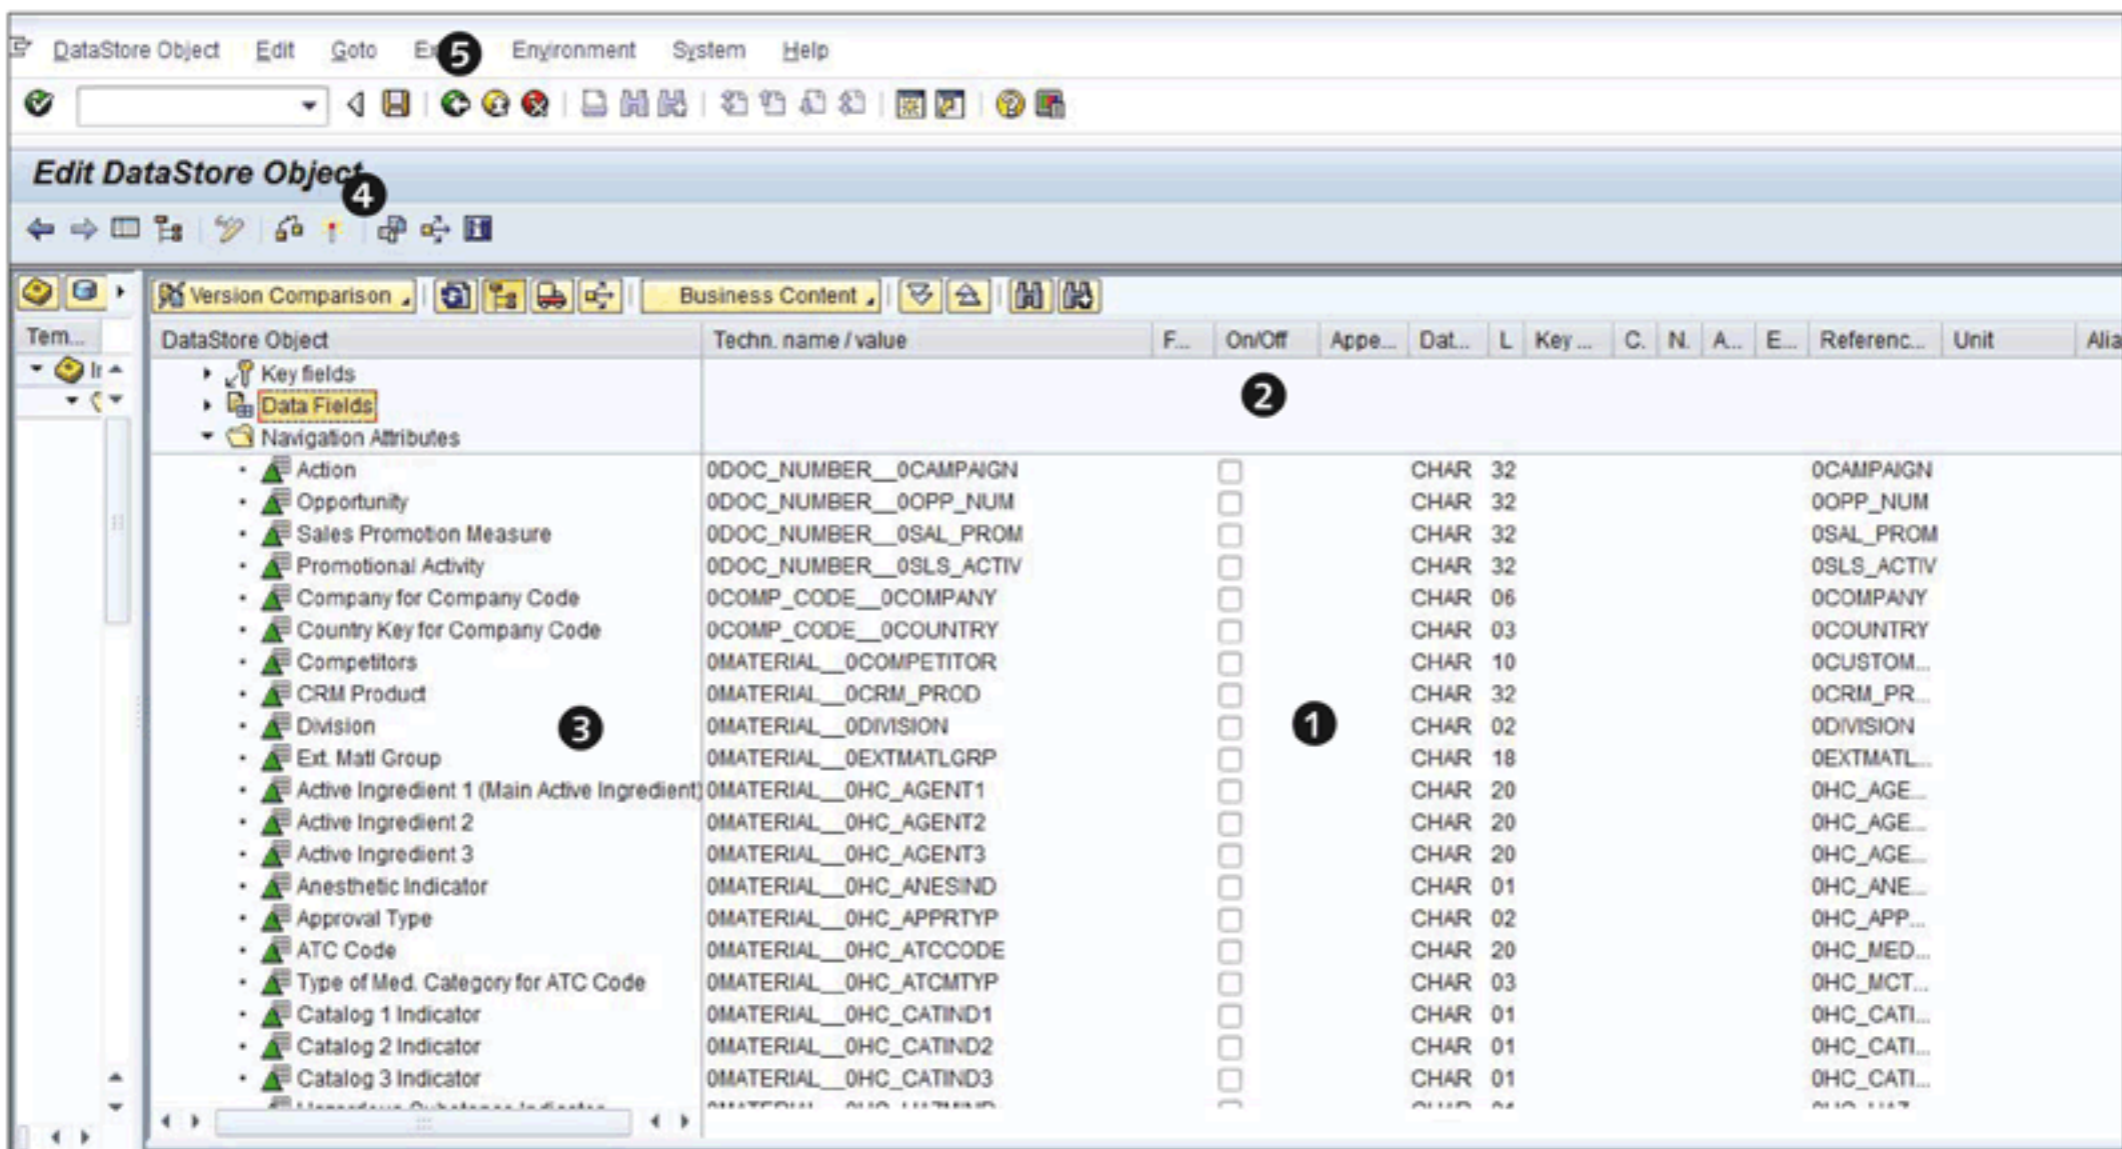
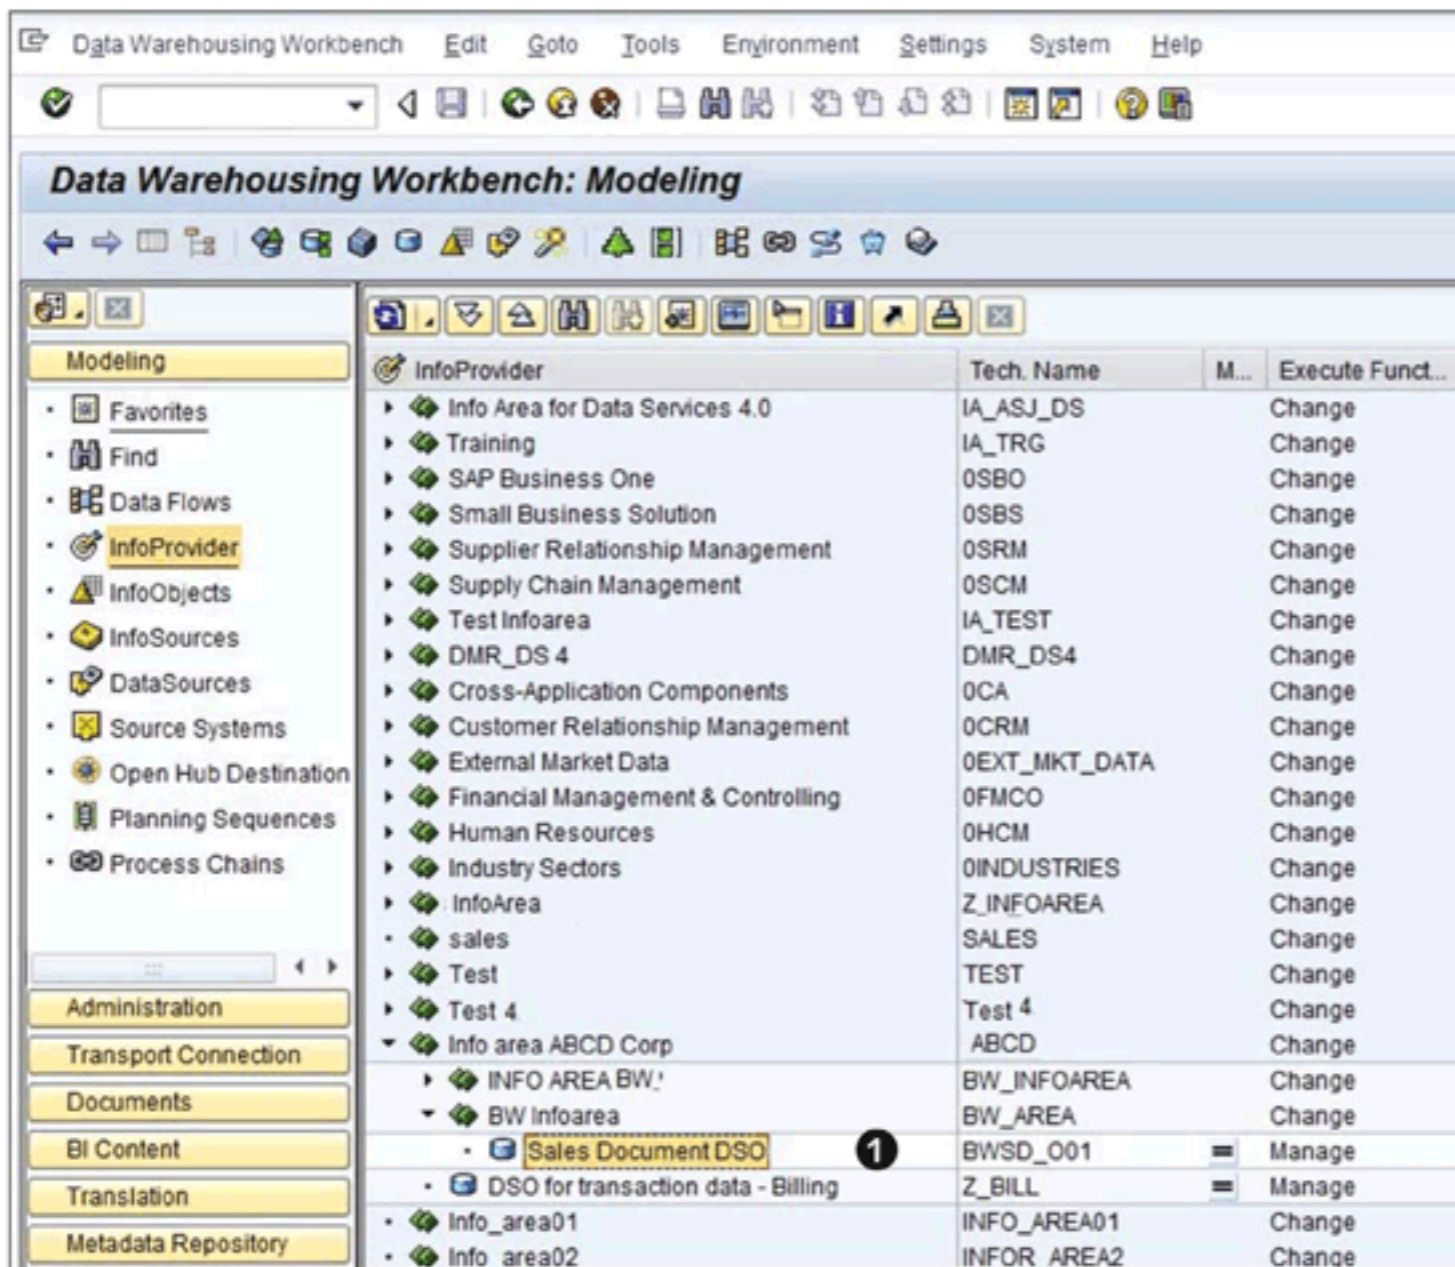

Figure 4.14 Edit DSO: Navigation Attributes
Figure 4.15 DSO BWSD_001 Under InfoArea BW_AREA
Navigation attributes defined for the included InfoObjects are available for viewing under the NAVIGATION ATTRIB column. They are included automatically, and you need to confirm them by selection, as shown in ❶ of Figure 4.14.
The box in the ON/OFF column (refer to ❷ of Figure 4.14) indicates whether the navigation attribute is switched on (included) or off (excluded). SAP NetWeaver BW follows a standard naming convention for navigation attributes: NAME_OF_CHARACTERISTICS__NAME_OF_ATTRIBUTE. So, for example, the name 0MATERIAL__ODIVISION indicates that 0DIVISION is the navigation attribute of the 0MATERIAL InfoObject (❸).
You can now activate the DSO using the ACTIVATE icon (🔑), as shown in (4) of Figure 4.14. Activating the DSO creates the three tables we mentioned earlier: the activation queue (new data), active data, and change log tables.
Return to the initial DWW screen by using the BACK icon (⏪) (5) of Figure 4.14). As you can see in 1 of Figure 4.15, the newly created DSO BWSD_001 is available under InfoArea BW_AREA.